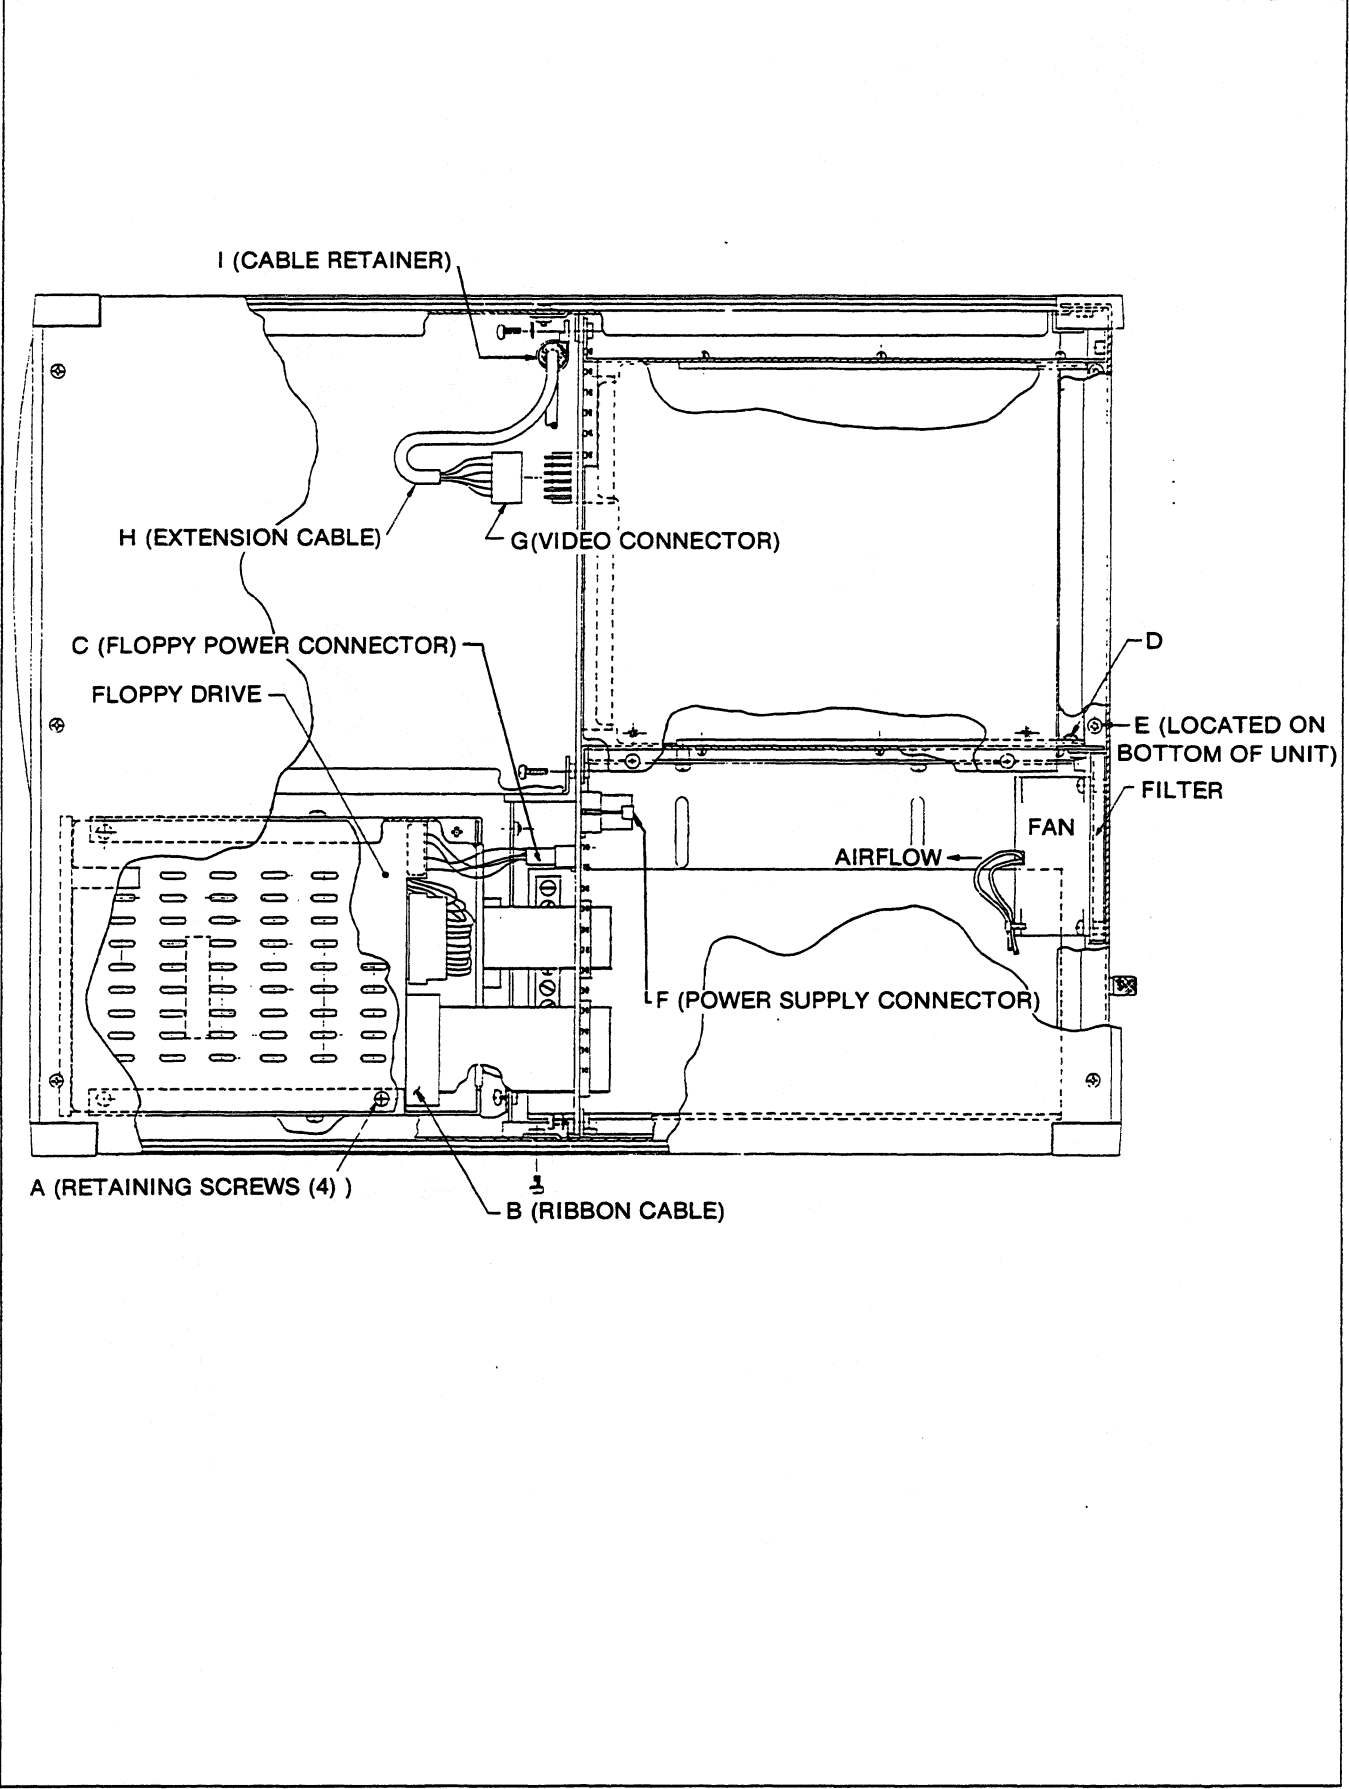
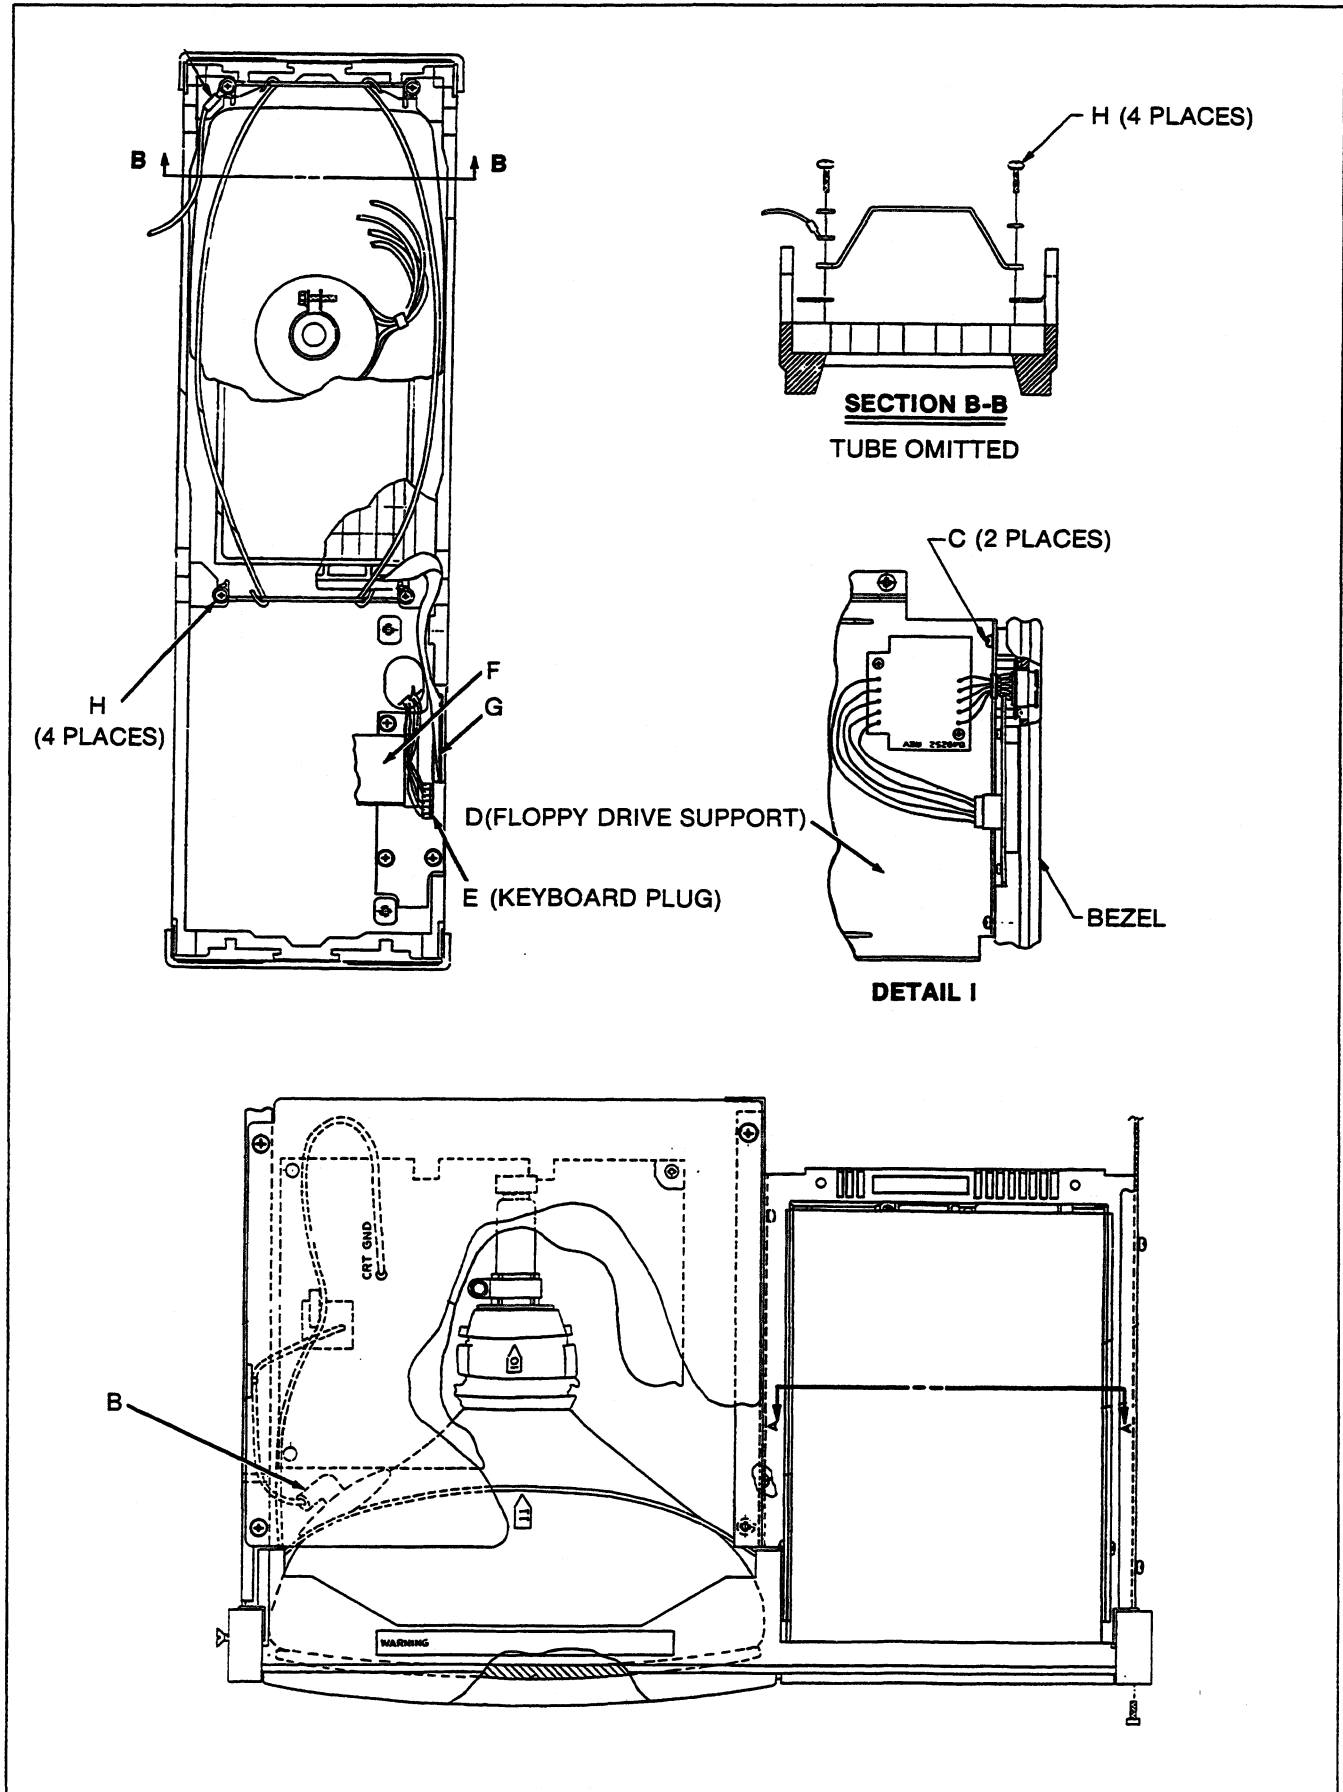

Figure 3-13. Top View of 1722A (Old Chassis)
Figure 3-14. Front Panel Details
3-74. Disk Drive Access (Old Chassis, Figure 3-13)
2. Refer to Figure 3-13. Unplug the disk drive power connector (C) at the motherboard.
3. Remove the four retaining screws (A) from the top cover of the disk drive and remove the cover to gain access to the card edge connector.
4. Unplug the ribbon cable (B) at the card edge connector.
5. Refer to Figure 3-14. Turn the 1722A on its side. Working from the bottom of the disk drive, remove the four retaining screws (A) from the bottom of the disk drive support chassis. Hold the disk drive during removal to avoid dropping it.
7. Referring to Figure 3-13, remove the two screws (D) from the left card-cage wall. The screws are immediately inside the opening.
8. Remove the single screw (E) from the bottom flange of the rear panel.
4. Referring to Figure 3-13, unplug the connector (F) labeled POWER SUPPLY from the motherboard.
2. Referring to Figure 3-14, discharge the CRT as follows:
3. Referring to Figure 3-14, remove the two screws (C) that secure the front panel to the floppy drive support (D).
4. Unplug the keyboard plug (E) from the front panel.
2. Referring to Figure 3-14, remove two of the four screws (H) that hold the wire CRT retainer to the front panel. The screws are under tension, so hold the retainer down with one hand while loosening the screws.
2. Referring to Figure 3-14, make sure the TSO ribbon cable (G) is unplugged from the front panel.